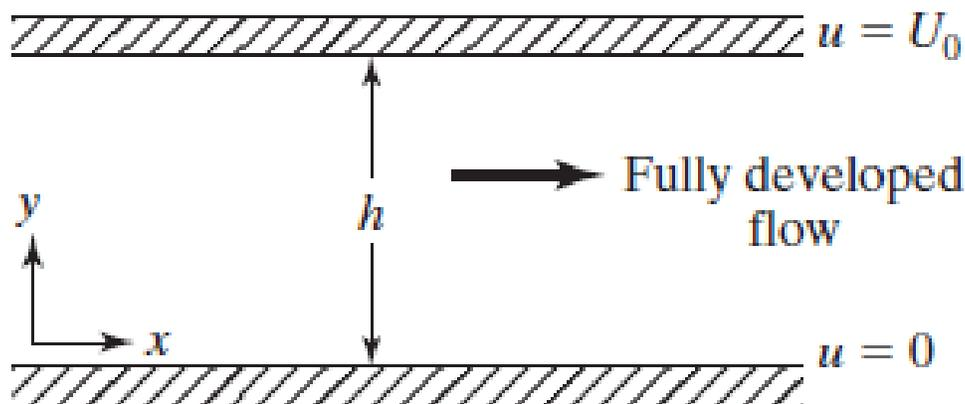

Fig. 2.
3. Consider steady, low-speed flow of a viscous fluid in an infinitely long, two-dimensional channel of height h (i.e., the flow is fully developed; Fig. 2). Since this is a low-speed flow, we will assume that the viscosity and the density are constant. Assume the body forces to be negligible. The upper plate (which is at $y = h$) moves in the x direction at the speed V_0 , while the lower plate (which is at $y = 0$) is stationary.